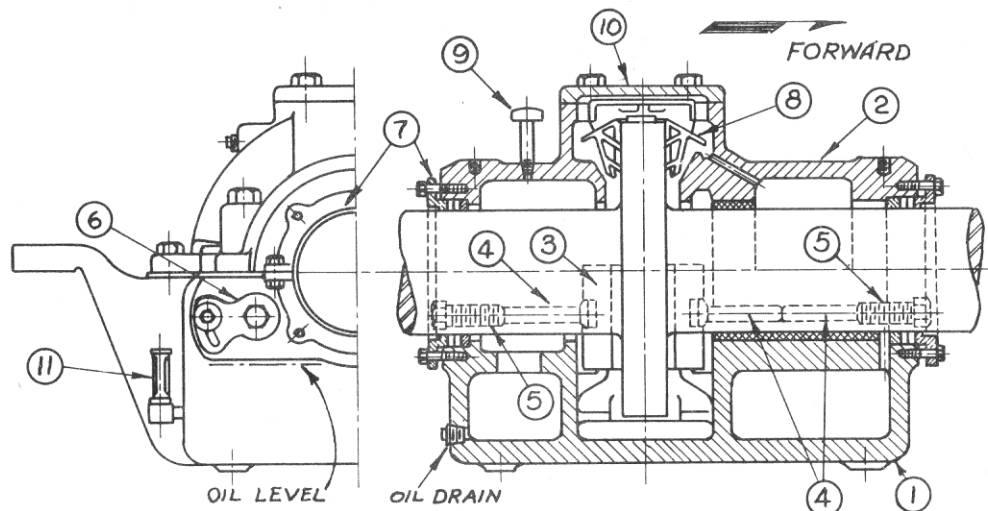

FIG. G-1
Referring to Fig. G-1 the standard style GH Kingsbury thrust bearing is equipped with two pairs of thrust shoes (3) (two shoes for ahead and two for astern thrust). These shoes are individually adjustable fore and aft by jackscrews (5) which are locked by lock wrench (6). A journal bearing, babbitted directly in lower thrust bearing housing (1) and upper housing (2) is also incorporated. The journal bearing is located on the flywheel end of the thrust bearing.